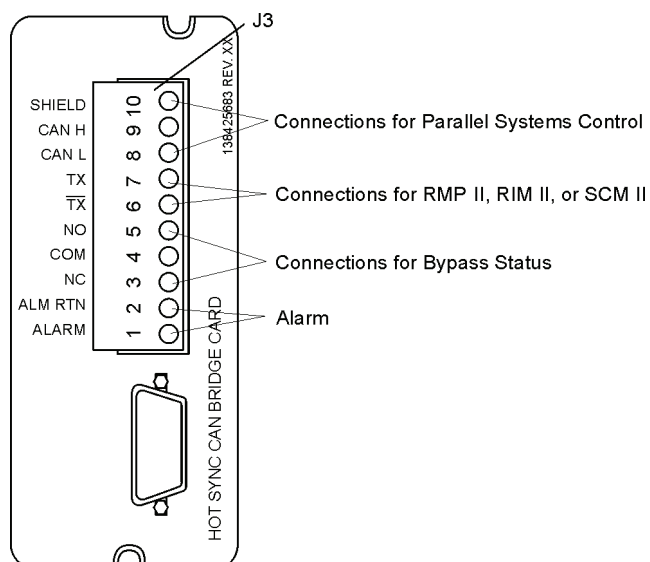
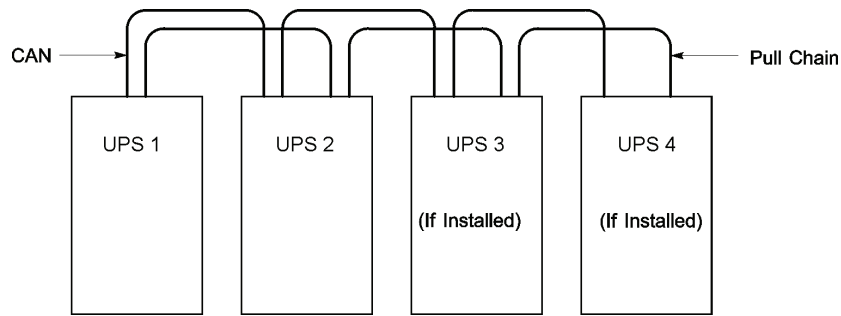
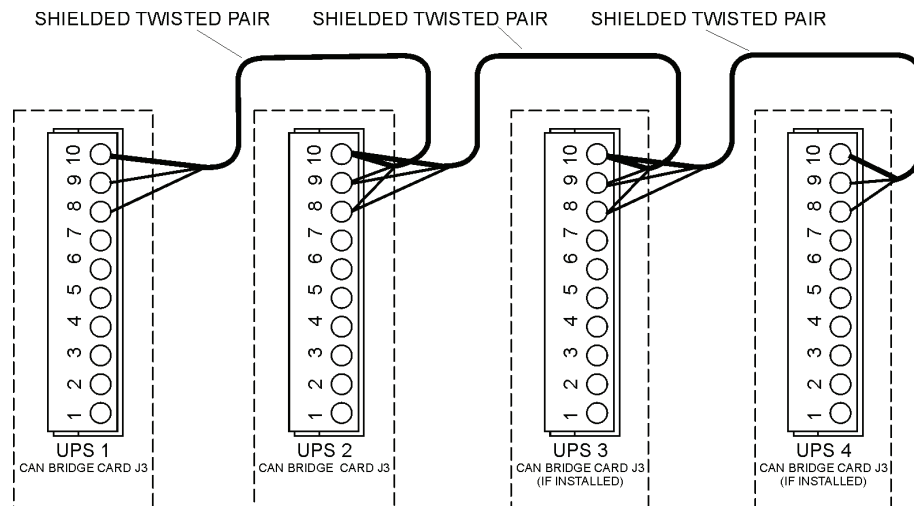

Figure 5-2. HotSync CAN Bridge Card connections
Figure 5-3. Distributed bypass system CAN and Pull-Chain simplified interface wiring
Figure 5-4. Distributed bypass system UPS CAN wiring without MOBs
To locate the appropriate terminals on the HotSync CAN Bridge Card, see Figure 5-2 and Table 5-1 on page 47.
7. Route and install CAN wiring between the UPS cabinets. See Figure 5-2 and Table 5-1 on page 47 for the HotSync CAN Bridge Card terminal location and Figure 5-3, Figure 5-4, and Table 5-2 on page 49 for wiring information.